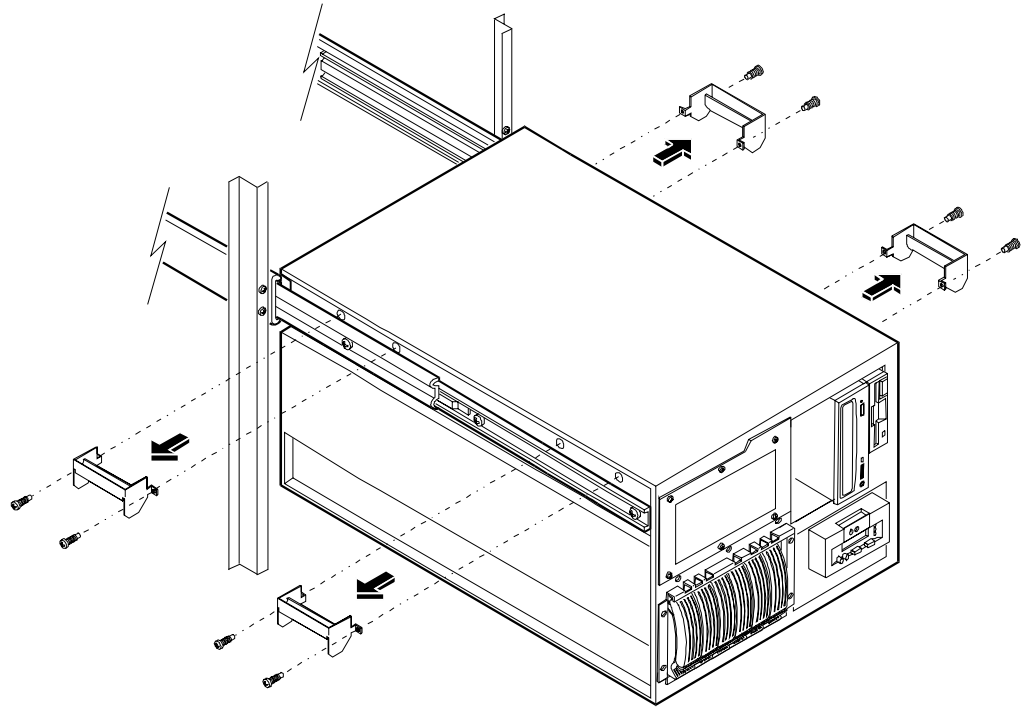

Figure 3-7. Remove Mounting Handles
5. Remove the two screws from each of the four handles and remove them (see Figure 3-7). Keep these handles and screws for later use, in case you need to remove the NetServer and ship it.